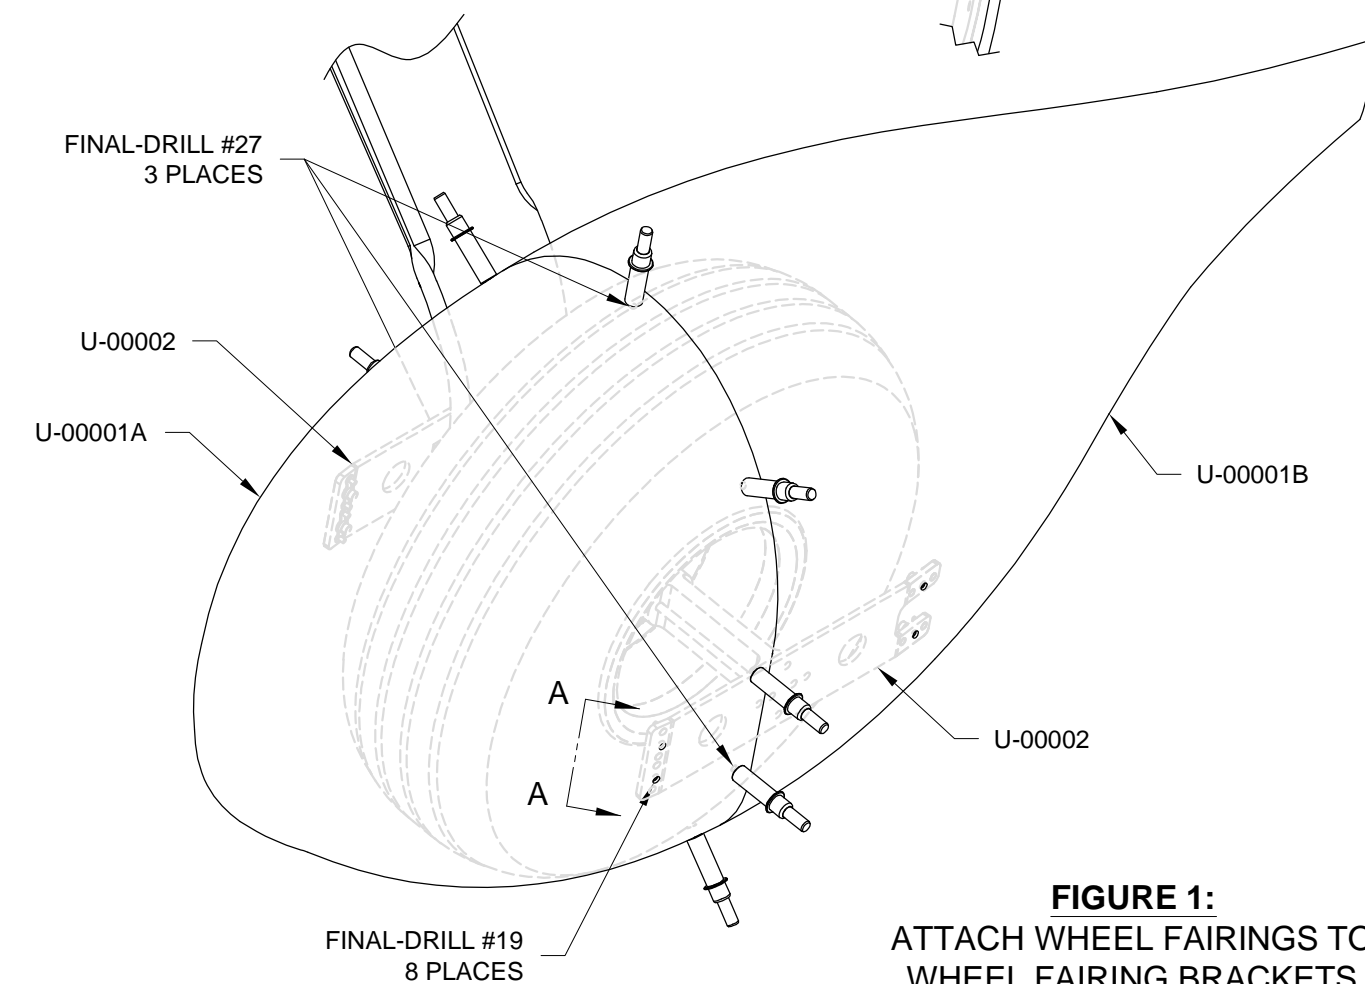

FIGURE 1:
Step 4: Install nutplates at the three #27 holes drilled in Step 4. Final-Drill #40 and countersink the U-00001B Wheel Fairing Aft for nutplate rivets as shown in Figure 1. Deburr the holes. Rivet the nutplates to the wheel fairing aft as per the callouts.